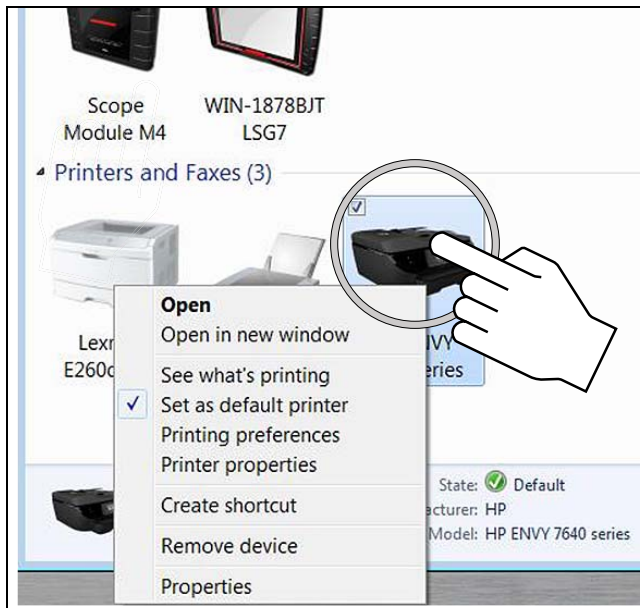

Figure 1-22
3. Touch and hold the icon of the printer you want to set as the default, until the optional menu indicator (circle outline) appears (Figure 1-22) and then release (this is also known as right-click menu). From the menu, select “**Set as default printer**”. When set, a check mark is displayed next to the option (Figure 1-22).